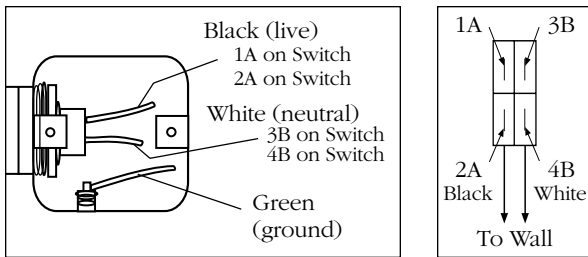

fig 3: Cable Connector & Wiring Diagram
- B. Make connections between Towel Warmer and house wiring using approved connectors to comply with National Electrical Codes. LIVE (black), NEUTRAL (white), and GROUND (green) (fig 3).